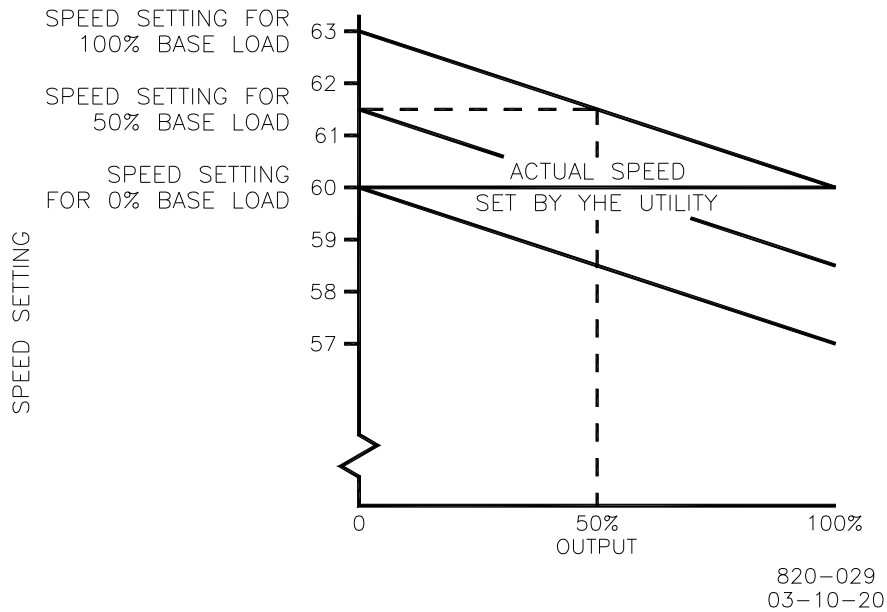

Figure 3-3. Droop Base Load with 5% Droop
*—If only 50% loading is possible, 58.5 Hz would indicate 5% droop. See Figure 3-3.